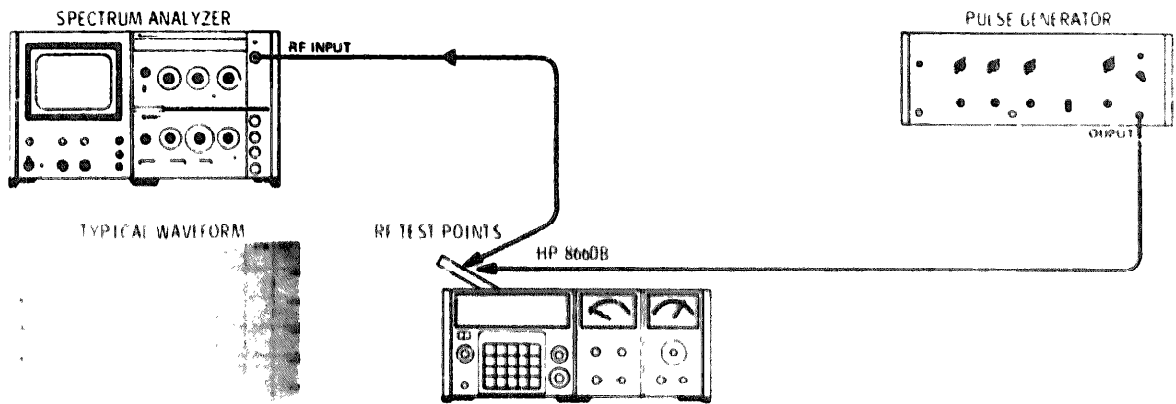

Figure 5-7. Phase Detector Response Adjustment Test Setup
- 1. Phase Detector Response Adjustments (see Figure 5-7)
- c. Adjust EFFiciency control A4A7R18 for a flat response to approximately 5 MHz with very slight peaking (1 dB ± 1 dB) See the waveform in Figure 5-7 for typical response.